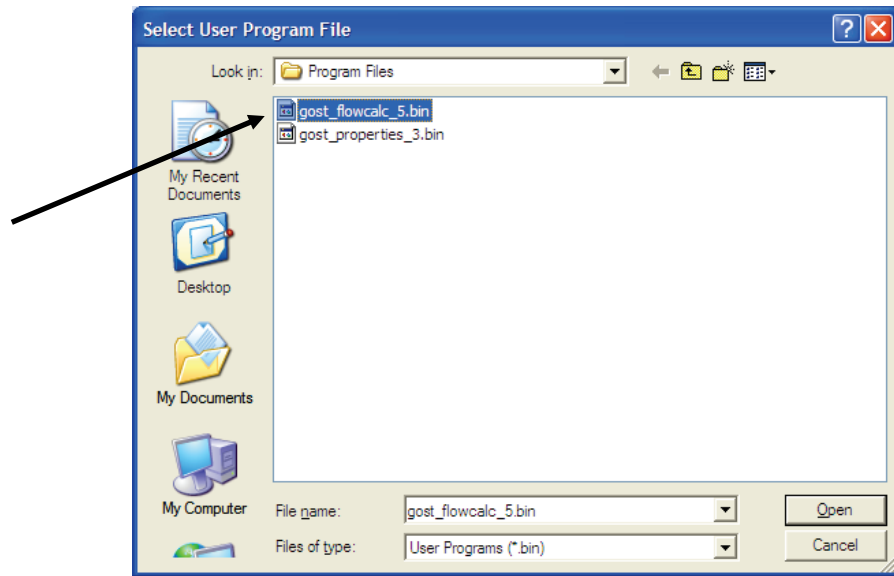

Figure 2-4. Select User Program File
5. Select the path and user program file to download from the CD-ROM. (Program files are typically located in the Program Files folder on the CD-ROM). As *Figure 2-4* shows, the screen lists all valid user program files with the .BIN extension: